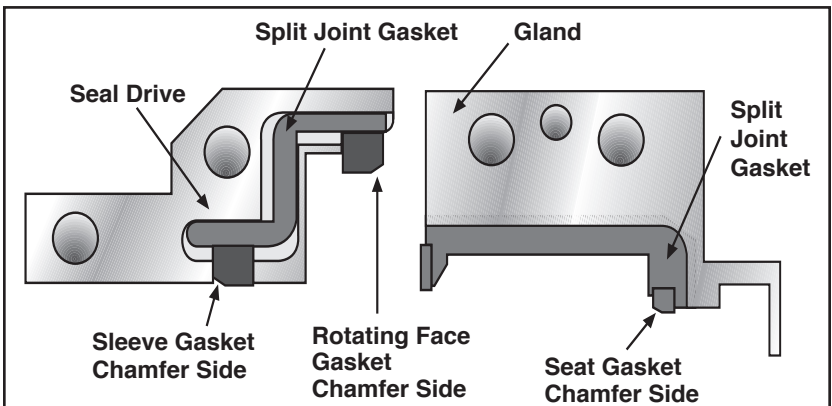

Figure 6
2.5 **Gasket Chamfers** - The seat gasket, rotating face gasket, and sleeve gasket are all chamfered on one side and must be positioned as shown in Figure 6.